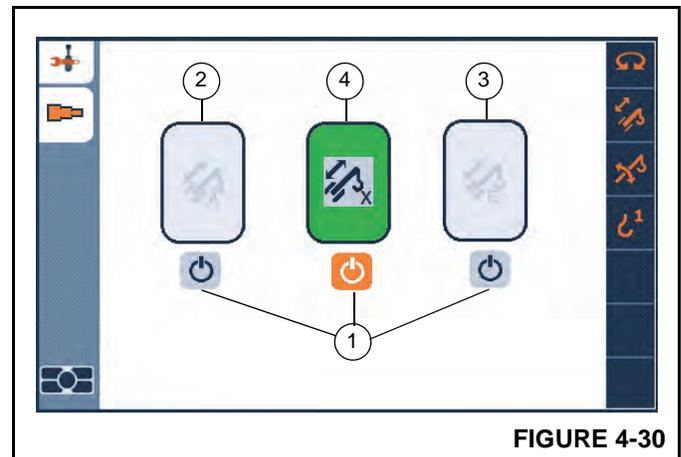

FIGURE 4-30
The Telescope Configuration function screen (Figure 4-30) allows the operator to enable and disable the three automatic telescope modes, to include A, X, and B. The manual mode, Mode M, cannot be disabled.
In Figure 4-30, Modes A (2) and B (3) are disabled and grayed out. Mode X (4) is enabled.
1. Use the Jog Dial or Arrow Buttons on the Navigation Control Pad to highlight the button (1, Figure 4-30) under the related Mode icon (2, 3, and 4) you wish to enable (button is orange).
3. To disable a Mode, highlight the desired button (1) and Press the Jog Dial or OK Button on the Navigation Control Pad to disable the related the Mode (Mode icon is grayed out).